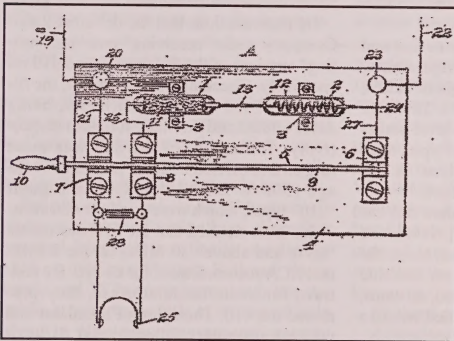

Fig. 1. A unique breadboard style assembly of crystal detector components, from the Charles S. Lenz Patent [1].
One of the exceptions to this trend was Charles S. Lenz, who filed a patent in the summer of 1914 for a holder assembly and a specific type of crystal [1]. This consisted of the unusual breadboard style arrangement shown in Figure 1, taken from the patent. Important components include crystal holder (1), spring holder (2) and large shunt switch (10) for detector protection when needed.
ing either the spring holder or the crystal holder back and forth in their respective clamps (3), shown in Fig. 1.